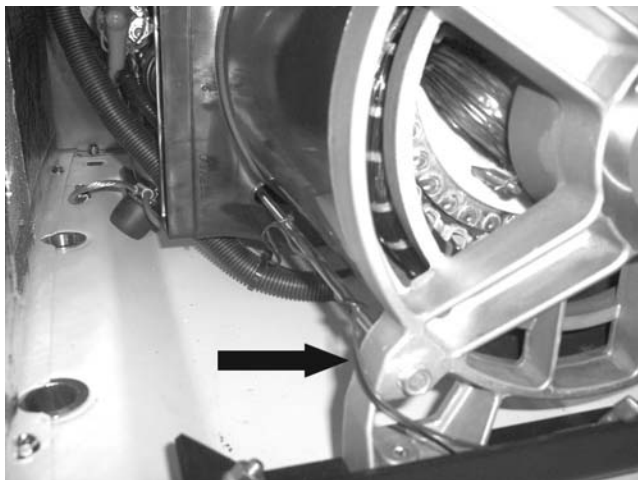

Figure 196.
12. **Remove Brush Wires:** Using a side cutters remove the tie wraps securing the brush wires to the outside of stator. See Figure 196.